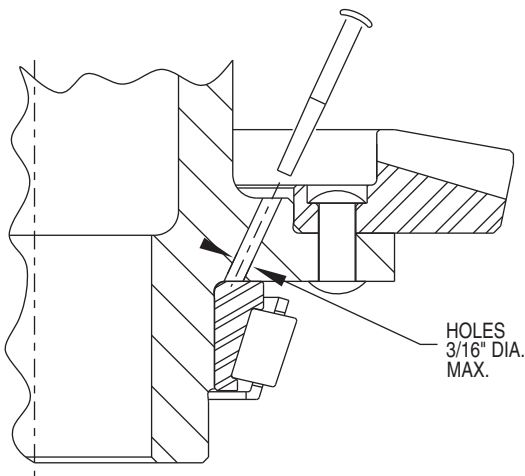

FIGURE 6 – Gear Side Bearing Removal
~~If gear side Bearing (26) is to be salvaged and reused (because of a replacement of ring gear or output sleeve), it must be gently tapped off sleeve with a flat punch after drilling several opposing holes (max. 3/16" dia.) in flange of output sleeve as shown in Figure 6. When enough clearance is obtained between bearing and output sleeve, insert a bearing puller and complete bearing removal. It is good practice to remove the gear side bearing from the output sleeve if Ring Gear (27) has to be replaced because the bearing could easily be contaminated with metal fragments when ring gear rivets are removed.~~